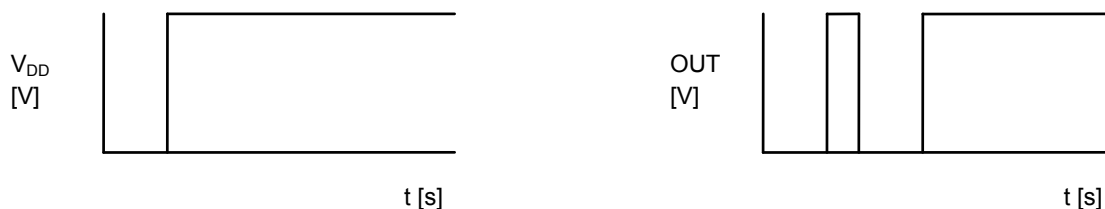

Figure 32
**Remark** When the power rises sharply, the output may instantaneously be set to the "H" level due to the IC's indefinite area (the output voltage is indefinite when it is the IC's minimum operation voltage or less), as seen in **Figure 32**.